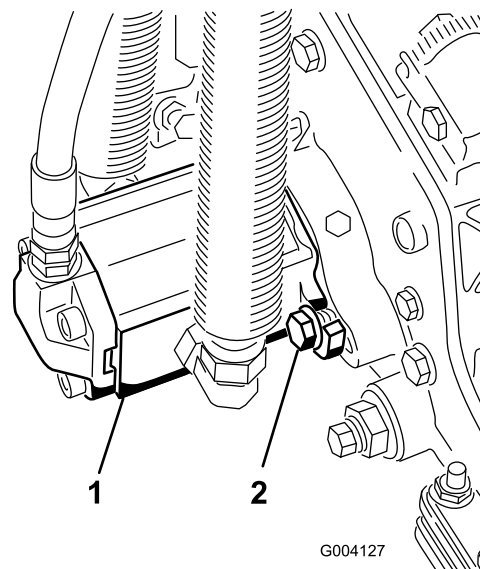

Figure 15
16. Install the motor by rotating it clockwise so that the motor flanges clear the bolts (Figure 15). Rotate the motor counterclockwise until the flanges encircle the bolts then tighten the bolts.